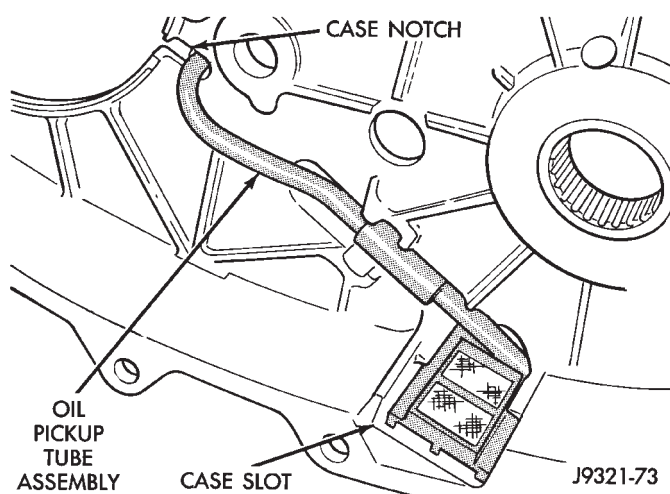

Fig. 84 Oil Pickup Tube Installation
- (1) Clean sealing flanges of front case and rear case with a wax and grease remover.
- (2) Install new O-ring on flanged end of oil pickup tube.
- (3) Install oil pickup tube in rear case. Be sure tube is seated in case notch as shown (Fig. 84).